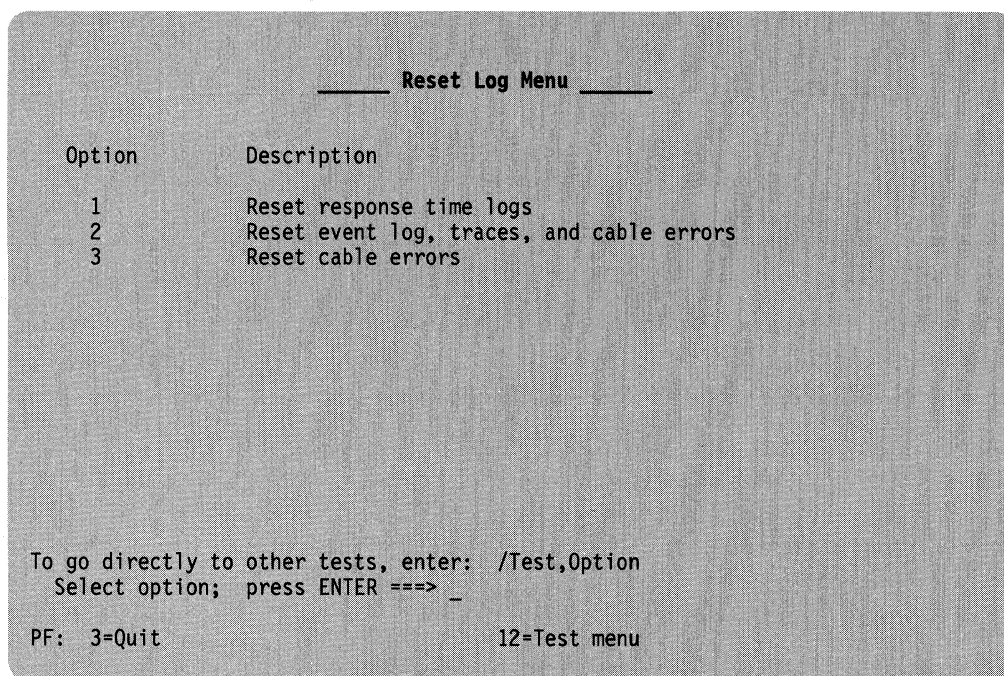

Figure 3-14. Test 4: Reset Log Menu Panel
3. Press **Enter**; the Reset Log Menu shown in Figure 3-14 is displayed.